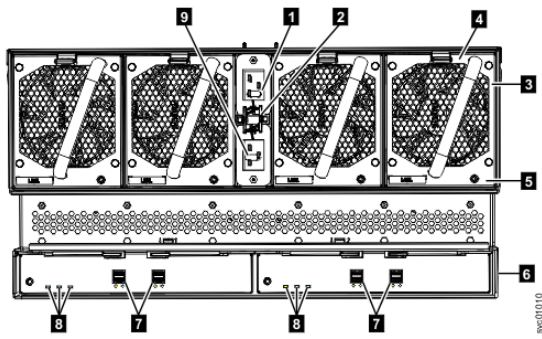
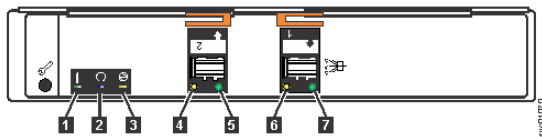

Figure 205. LEDs on the back of the expansion enclosure
Figure 206. LEDs on the back of the expansion canister
Table 72 on page 229 explains the function and status that is indicated by each of the LEDs. The power cords for each PSU are accessible from the rear of the expansion enclosure (1), as shown in Figure 205 on page 231.
Figure 205 on page 231 shows the rear view of a expansion enclosure. LEDs on the rear of the enclosure provide information about each fan module, each expansion canister, and SAS links.
The expansion enclosure has four fans. Each fan has one LED; for example, Figure 205 on page 231 shows the location of the LED (5) for fan number four. When a fan is operating normally, the LED is not lit. If a fault is detected, the amber LED is lit.
As Figure 205 on page 231 also shows, the expansion enclosure contains two expansion canisters. Each expansion canister contains its own set of LEDs, as shown in Figure 206 on page 231. The LEDs provide status information about the expansion canister itself and the SAS connections.